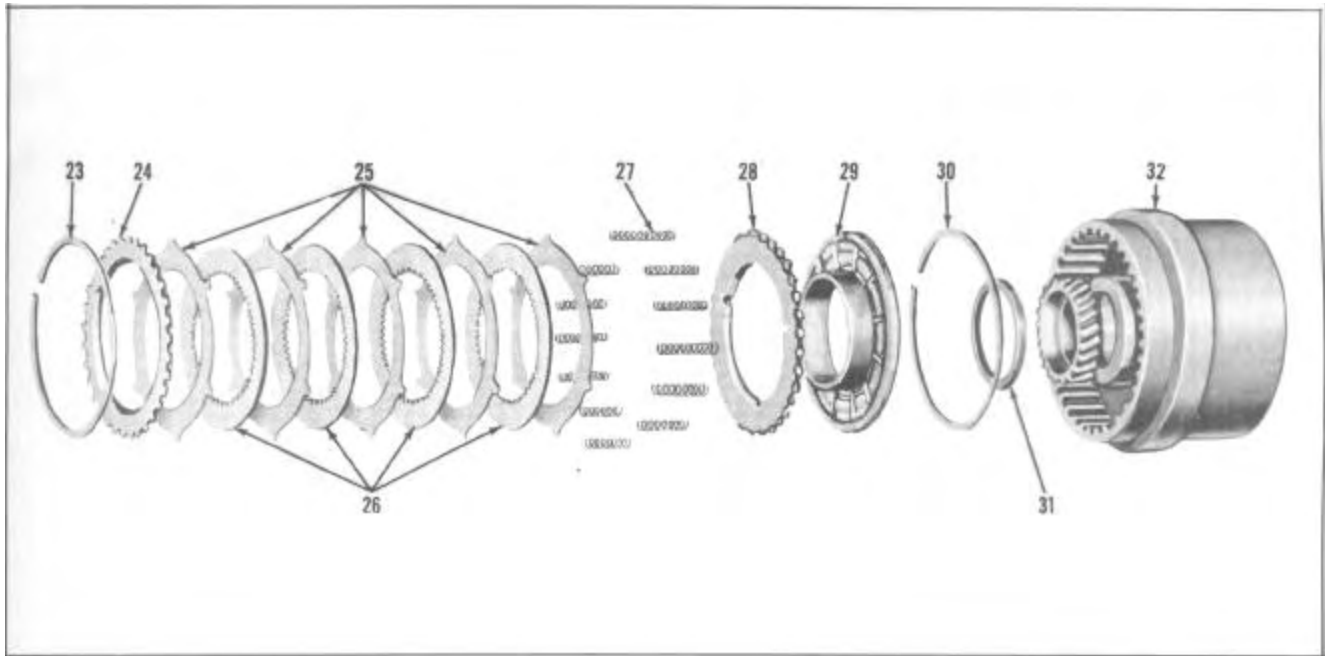

FIGURE 115
30. Use a small screwdriver and pry the end of the snap ring out of the groove and remove the snap ring (23), Figure 115, then slowly release the arbor press to gradually release the retractor spring pressure.
31. Remove the Fixture J-5478 and remove the retractor spring retainer (24), retractor springs (27).
32. Lift the clutch steel plates (25), clutch discs (26) and retractor spring seat (28) out of the low brake drum.
34. Remove the piston inner seal (31), Figure 115, by squeezing the seal to one side to